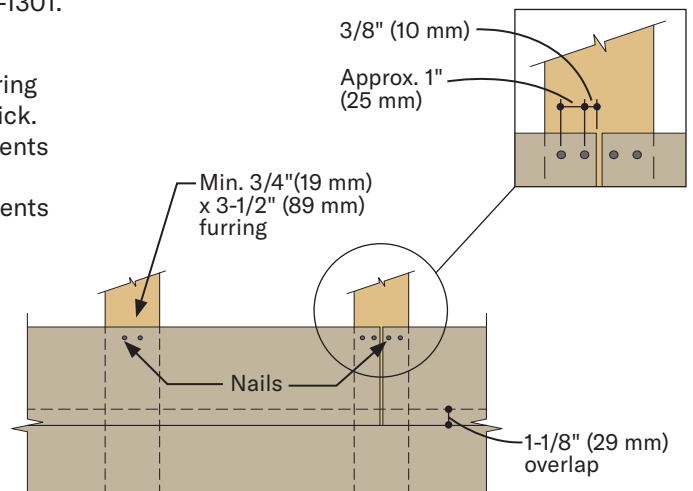

Figure 4c
- Blind nail two fasteners per furring strip (four nails at butt joints). (Figure 4c)